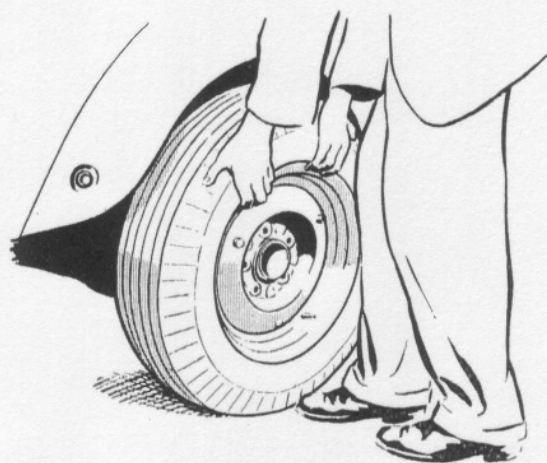

Fig. 27.—MOUNTING REAR WHEEL.
1. Roll the spare wheel under the hub, the top of the wheel being inclined outwards, then with a foot at the bottom of the wheel, lift by the rim on to the hub extension, as shown in Fig. 27.
Front.—Position the wheel on the hub extension as described for the rear wheel (1). (See Fig. 27.)